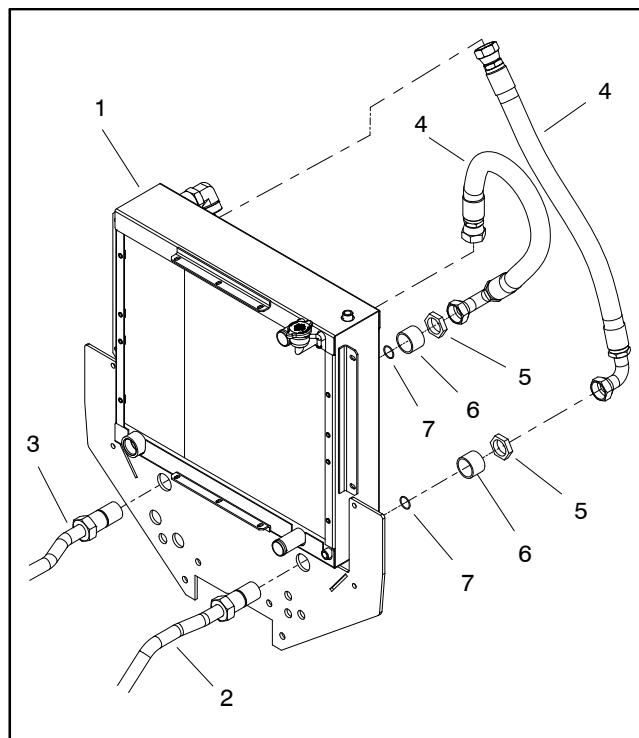

Figure 11
5. Remove air cleaner intake hose (item 8).
6. Remove four (4) flange head screws and flange nuts that secure plenum assembly (item 5) to crossover plate. Remove plenum assembly from machine.
10. Disconnect hydraulic hoses from radiator/oil cooler (Fig. 11). Put caps or plugs on open hydraulic hoses and fittings to prevent system contamination. Label the hydraulic hoses to show their correct position on the oil cooler for assembly purposes.
11. Disconnect reservoir hose (item 39) from the radiator vent tube.
12. Remove four (4) flange head screws and flange nuts securing the radiator/oil cooler and recirculation barriers (items 24 and 25) to the radiator mount. Carefully remove radiator/oil cooler from the machine. Make sure that spacers (item 32) remain in hood seal.